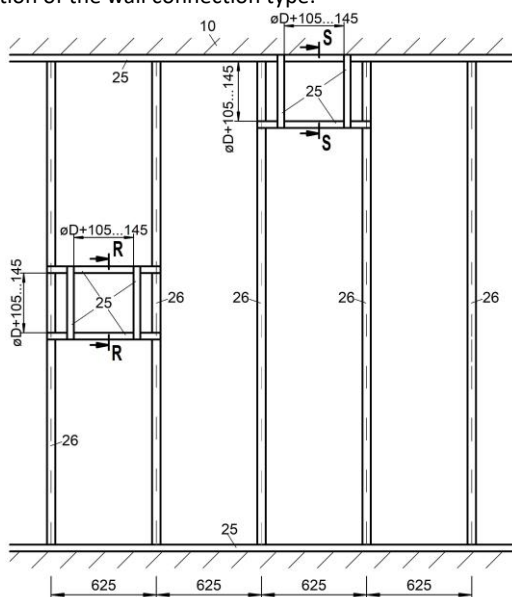

Figure 35: Metal posts plus required exchange parts for wet installation of a BSK-RPR, complete mortar lining
- Mount the metal posts and the wall in accordance with the specifications of the wall manufacturer and the required exchange parts as shown on Figure 35. Take into account circumferential lining of the reveals with plasterboards (pos. 23.1).
- Insert the BSK-RPR (pos. 1) into the wall recess (operating side: observe the installation dimension of 210 mm). Average out the circumferential annular gap evenly between the wall and the BSK-RPR. Mount the BSK-RPR with the help of mounting suspensions, etc.
- Insert mortar (pos. 28) into the circumferential gap 40 mm in width between the housing of the BSK-RPR and the wall recess.